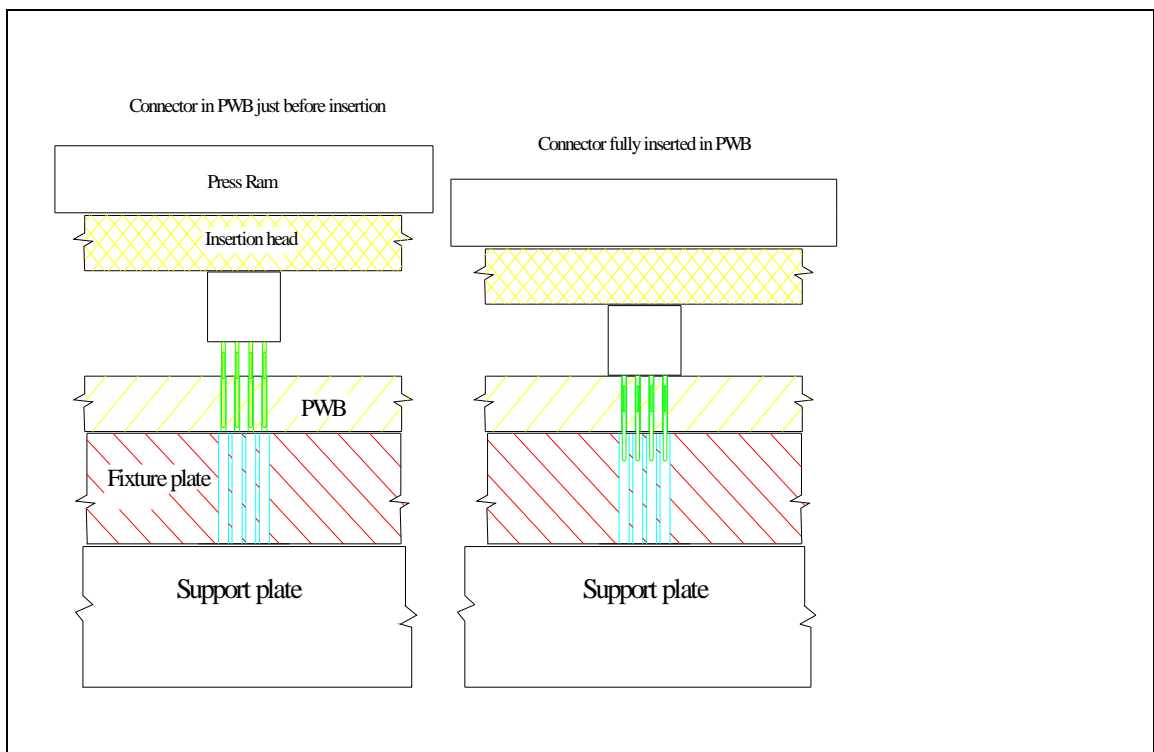

Figure 1: Tooling and fixtures required for installing press-fit connectors
Attachment of press fit connectors to the PWB is accomplished through the use of a press which is capable of generating a large compressive force, a simple seating tool, and a board support fixture. These parts are shown schematically in Figure 1 below which shows an end view of the PWB and a 4-row connector in the press.
- c. Align the connector terminations with the plated through holes and allow the tips of the terminations to slip into the holes until the compliant sections sit at the top of the holes (as shown in the view on the left hand side of Figure 1 above). It may be necessary to push gently downward on the mating face of the connector in order to get the pins this deep into the holes.